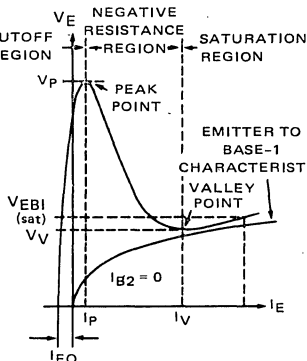

FIGURE 3 – V_{OB1} TEST CIRCUIT
3. Base-One Peak Pulse Voltage is measured in circuit of Figure 3. This specification is used to ensure minimum pulse amplitude for applications in ACR firing circuits and other types of pulse circuits.